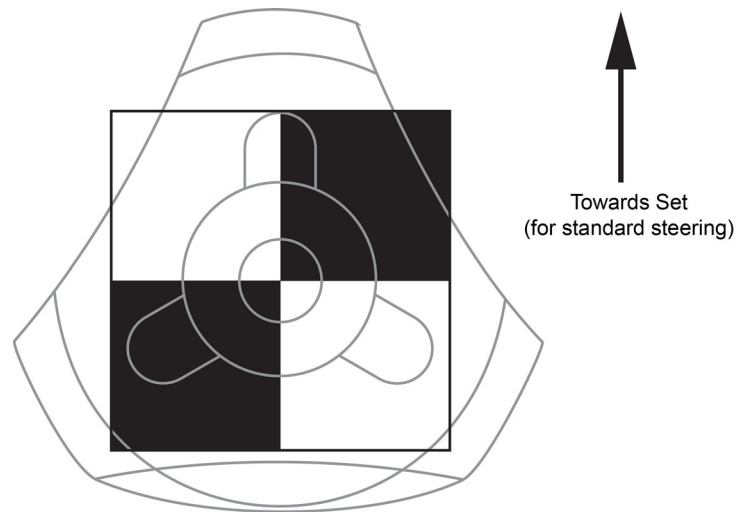

Figure 109 - Positioning a Vinten SP2000 Pedestal Over its Target
Typically, the target is installed square to the set, oriented as shown in Figure 109. This orientation is optimal for standard steering, in which the direction of pedestal motion is relative to the target orientation. For more information, see “**Standard Steering and Pan-Relative Steering for XY Pedestals**” on page 140.
3. Use the joystick panel to position the pedestal over the target sheet as shown in Figure 109.
Tip: The first time you target each Vinten XY pedestal, create a preset at that position. Anytime you want to target the pedestal, you can recall the preset to quickly move the pedestal to the target sheet. You must rotate the pedestal to the orientation shown in Figure 109 before targeting it. You can also recall the preset to park the pedestal between shows, to make targeting before the next show easier.